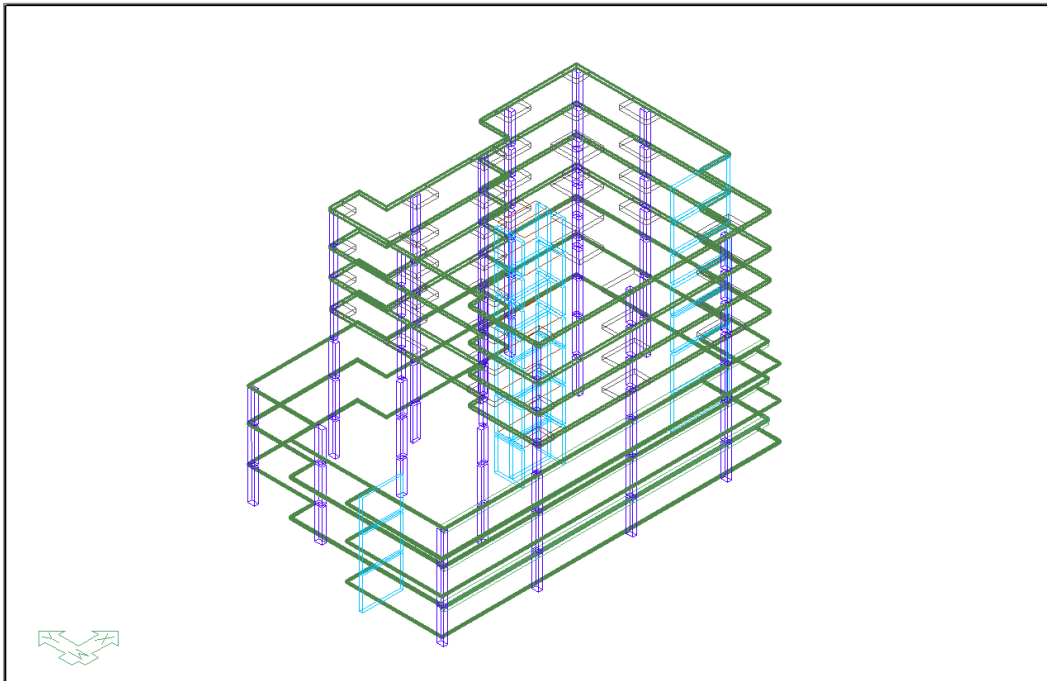

FIGURE 11-4
- In the *Loads* section click the checkbox next to **All** to turn off all the loads. Your screen should now look similar to **FIGURE 11-4**.